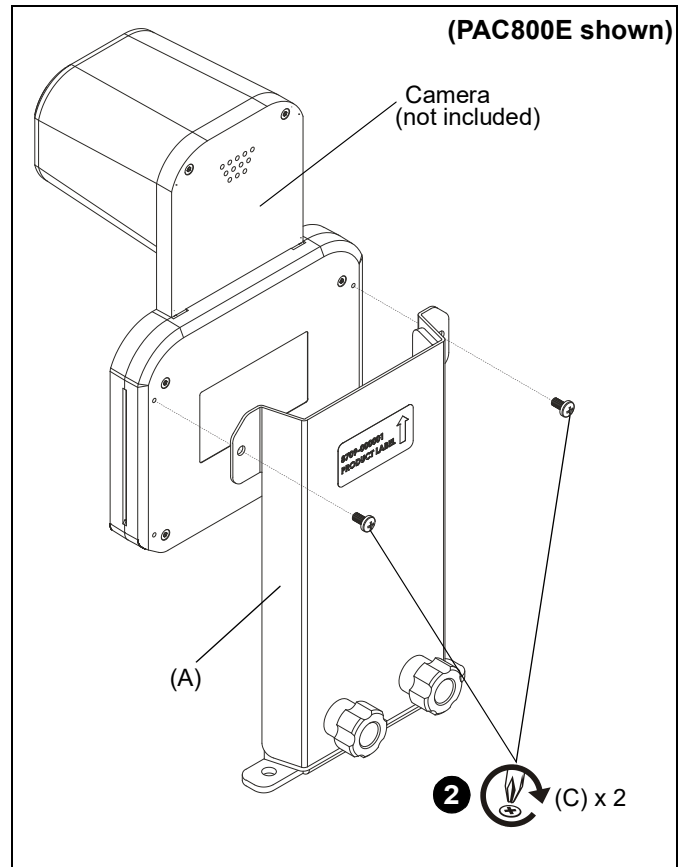

Figure 3
1. Use two 1/4-20 x 1/2" Phillips pan machine screws (C) to secure camera to main bracket (A). (See Figure 3)